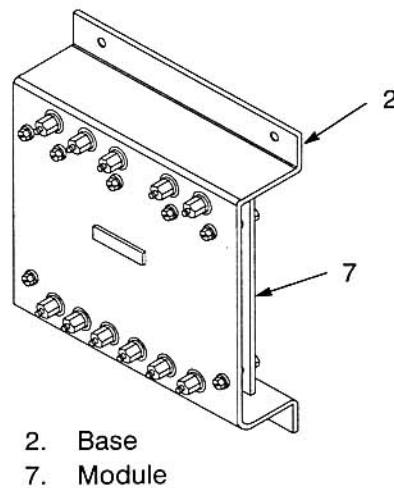

Figure 7–120 Inspect Voltage Attenuation Module (17FM560A1)
- a. Inspect base (2, Figure 7–117) for signs of obvious damage, such as cracks or chips. Replace if damaged.
- b. Inspect module (7) for burns, cracks, breaks, or obvious physical damage. If found replace module.